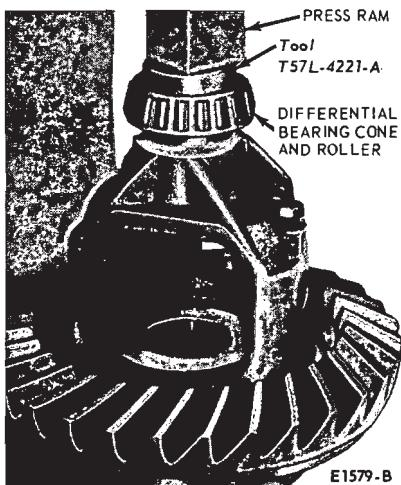

FIG. 18—Differential Bearing Installation
2. If the differential bearings were removed, press them on as shown in Fig. 18.